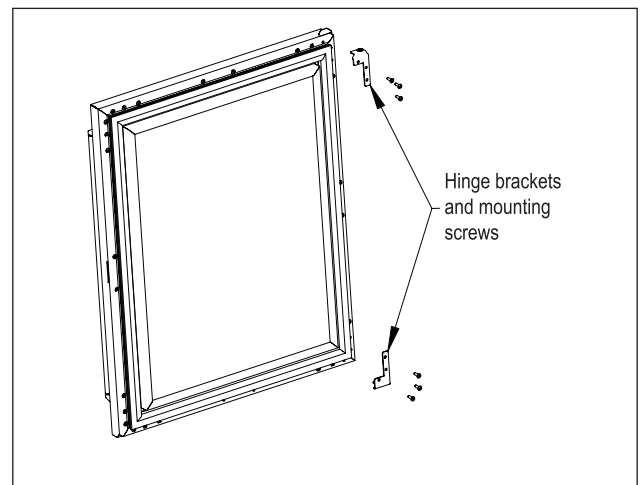

Figure 10. Door Brackets
6) Remove the top and bottom door hinge brackets and the push plunger brackets (Fig. 10). Retain the screws for later use.